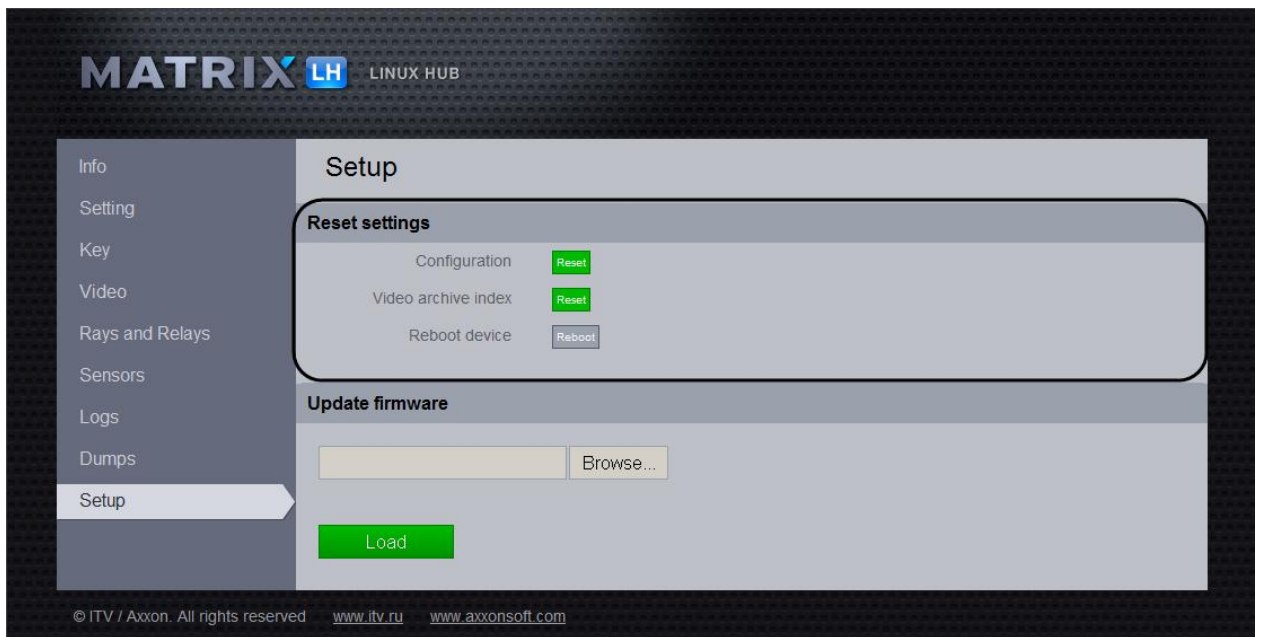

Figure 7.3-9 Resetting some of the configuration parameters (Setup tab)
The **Setup** tab (Figure 7.3-9) allows resetting some configuration parameters of the LS (LH).